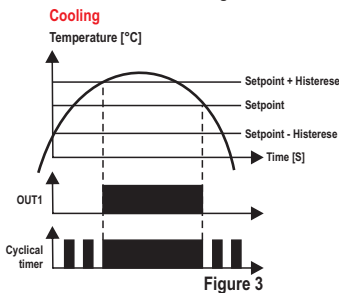

Figure 3
- **Cyclical timer output is on whenever stage 1 output is on (F22=4):** in this operating mode timer cycles according to the times configured in F20 ($\overline{[C\overline{D}n]}$) and F21 ($\overline{[C\overline{D}FF]}$), and **stage 3** stops cycling and keeps the output switched on, whenever **stage 1** output switches on, as shown in Figure 3.